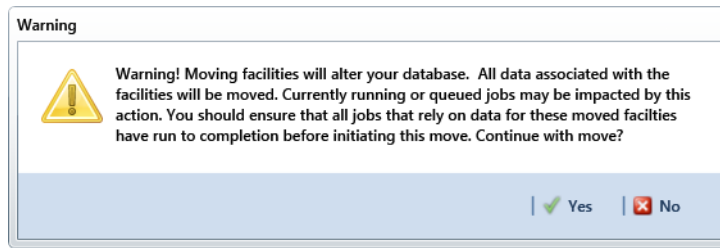

Figure 18-11. Warning Message
- 10 Click **Yes** in the *Warning* dialog box (Figure 18-11) to complete the move.